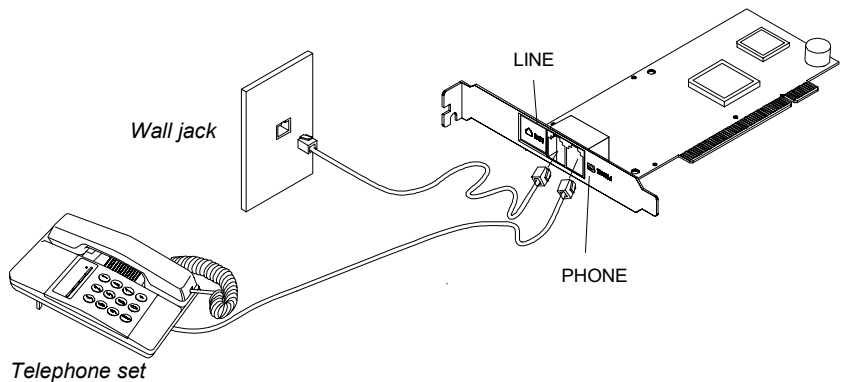

Figure 3-2 Connecting Peripherals
2. Insert one end of the modular cord that came with your card into the RJ-11 modular jack marked LINE on the card. Then plug the other end into the modular jack on wall outlet. See Figure 3-2.
3. Plug the RJ-11 jack of the telephone set into the RJ-11 jack marked PHONE on the card. See Figure 3-2.